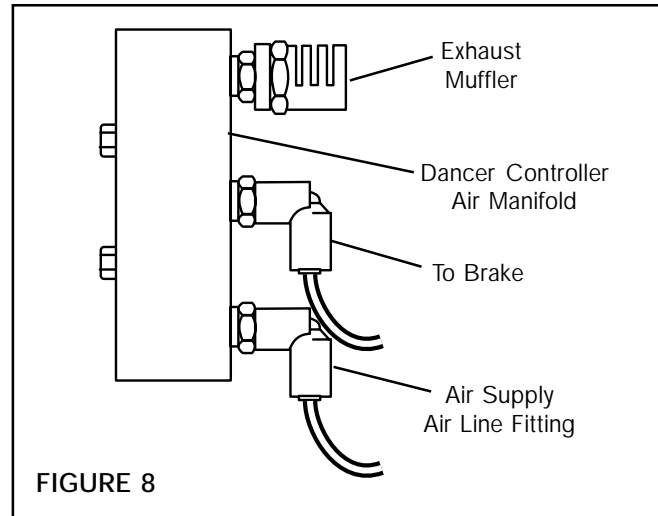

FIGURE 8
7. Check that sensor voltage decreases when the dancer arm pivots as web is taken out of what accumulates around the dancer roller and that the sensor voltage increases when the dancer arm pivots as web is accumulated around the dancer roller. If the Dancer Position Sensor voltage does not change as previously described, then the dancer controller's output must be reversed. This is accomplished by swapping the exhaust muffler and the air supply air line fitting on the dancer controller's air manifold (See Figure 8).